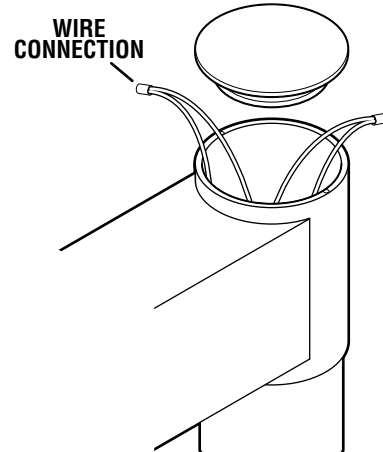

Figure 12. Bulb Voltage Test
a. Remove top cover from VST and test bulb voltage at the wire connections. Turn main power "ON" and set the Dimmer Control for the lighthouse being tested to maximum intensity for the test. Output voltage (at the connectors) should be 20V ± 0.2V. See figure 12.